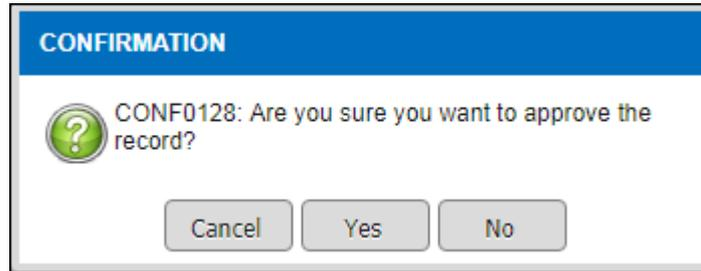

Figure 3.4-3 Approve Record Alert Message
- Click on the button in Figure 3.4-3 followed by the button in Figure 3.4-4.